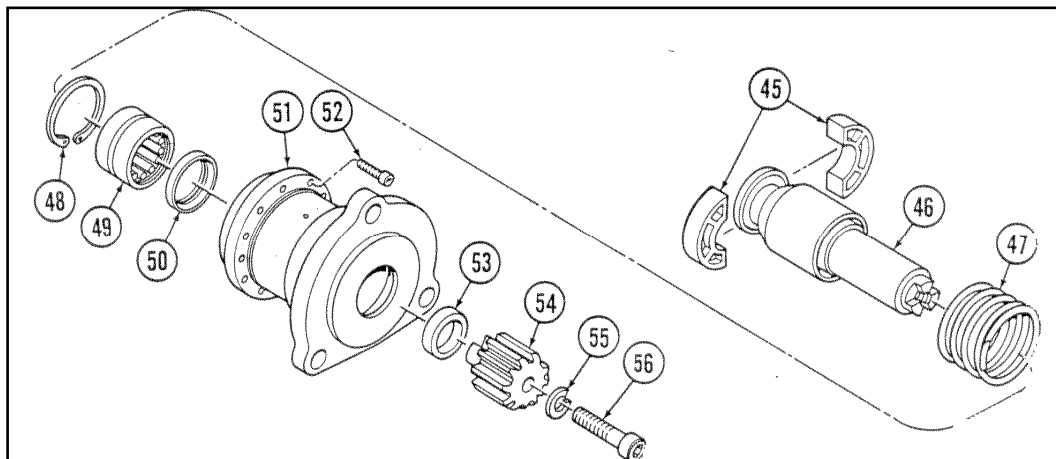

Figure 5. Drive Assembly
The drive assembly, refer to figure 5, consists of a pre-engagement drive (46) and drive housing (51). Twelve screws (52) secure the drive housing to the gearbox housing. The pinion (54) is secured by screw (56).